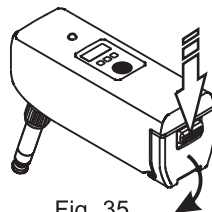

Fig. 35
(A) Gently push down on the battery compartment latch and swing the battery compartment over open, Fig. 35.